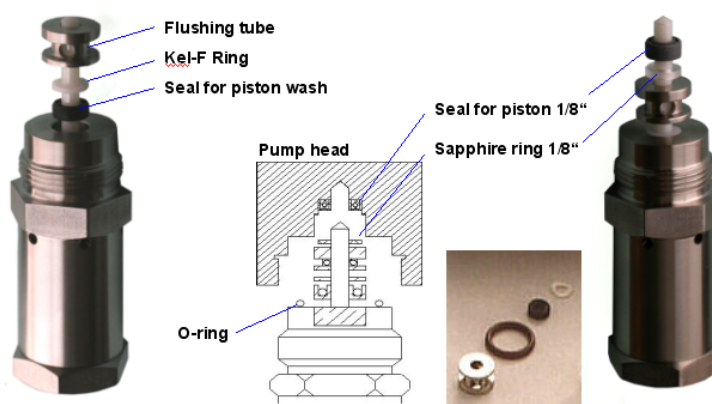

Fig. 8. Piston cartridge and piston wash assembly, analytical.
2. Remove the piston wash seals (Figure 8, 4) from its seat in the piston cartridge using the seal replacement tool.